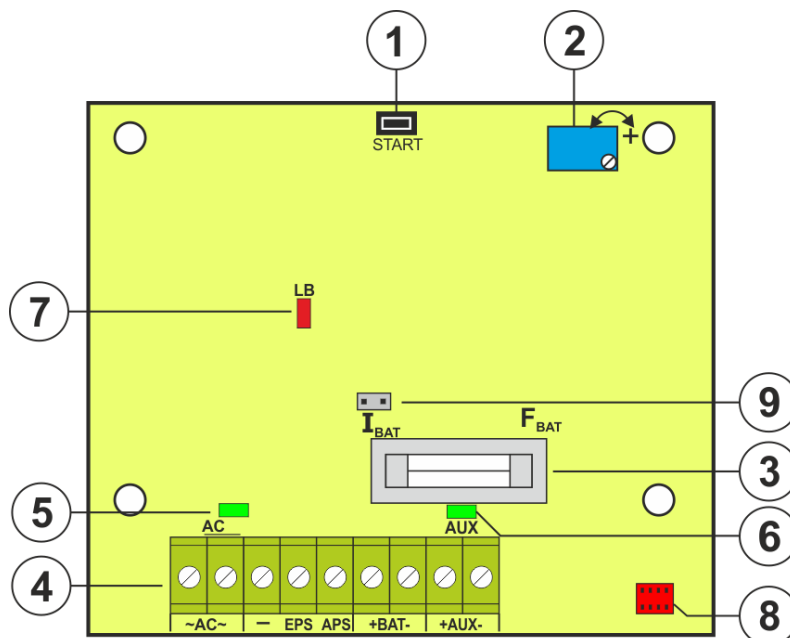
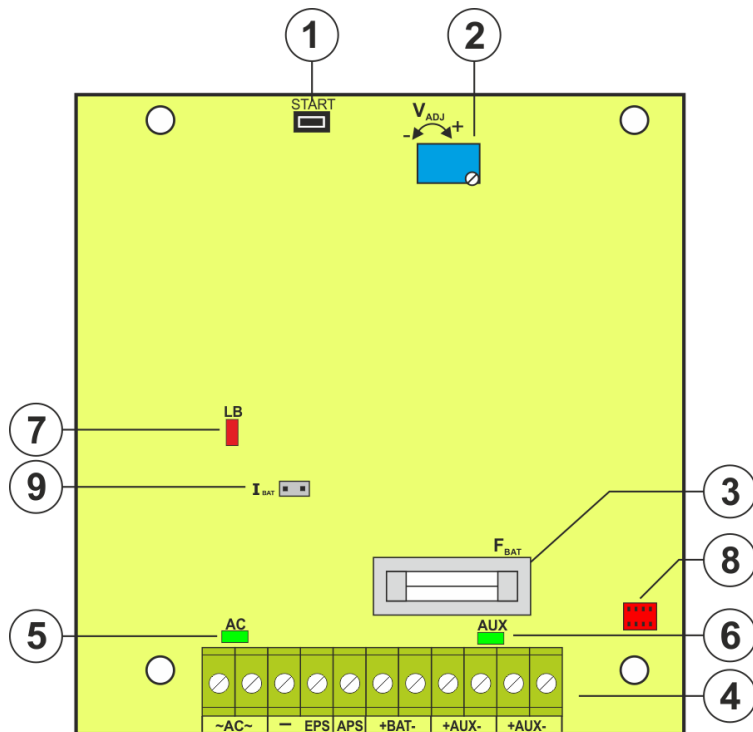
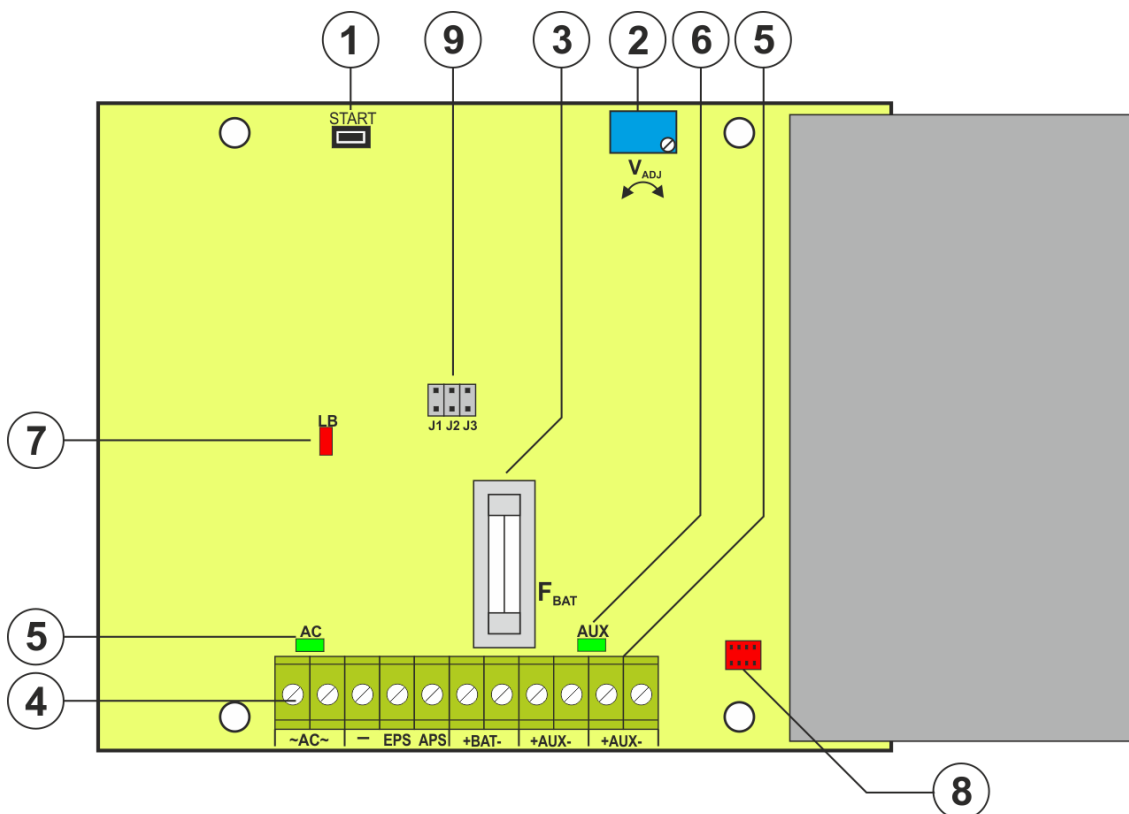

Fig. 2a. View of PCB board of 12V2A model
Fig. 2b. View of PCB board of 12V3A / 24V2A model
Fig. 2c. View of PCB board of 12V5A / 24V3A model
①	START button (launching from battery)
②	V_{ADJ} potentiometer, adjustable output voltage
③	F_{BAT} fuse in the battery circuit
④	Terminals: ~AC~ – AC power input EPS – technical output of AC power loss indication hi-Z state = AC power failure 0V state = AC power - O.K. APS – technical output of battery failure hi-Z state = failure 0V state = PSU status O.K. +BAT- – terminals for battery connection +AUX- – DC power supply output, (+AUX= +U, -AUX=GND) Description: hi-Z – high impedance, 0V – connection to the ground GND
⑤	LEDs – AC – indication of presence of main power
⑥	LEDs – AUX – power supply output voltage indication
⑦	LEDs – LB – battery charging indication
⑧	Connector to the external LED indicators
⑨	Jumper I_{BAT}: – battery charging current configuration Power supply unit 12V2A (see Fig 2a) <ul style="list-style-type: none"> • I_{BAT} = , I_{BAT} = 0,2 A • I_{BAT} = , I_{BAT} = 0,5 A Power supply unit 12V3A / 24V2A (see Fig 2b) <ul style="list-style-type: none"> • I_{BAT} = , I_{BAT} = 0,5, A • I_{BAT} = , I_{BAT} = 1,0 A Power supply unit 12V5A (see Fig 2c) <ul style="list-style-type: none"> • J1=  J2=  J3=  I_{BAT} = 0,5A • J1=  J2=  J3=  I_{BAT} = 1A • J1=  J2=  J3=  I_{BAT} = 2A Power supply unit 24V3A (see Fig 2c) <ul style="list-style-type: none"> • I_{BAT} = , I_{BAT} = 0,5, A • I_{BAT} = , I_{BAT} = 1,0 A Description:  jumper installed,  jumper removed